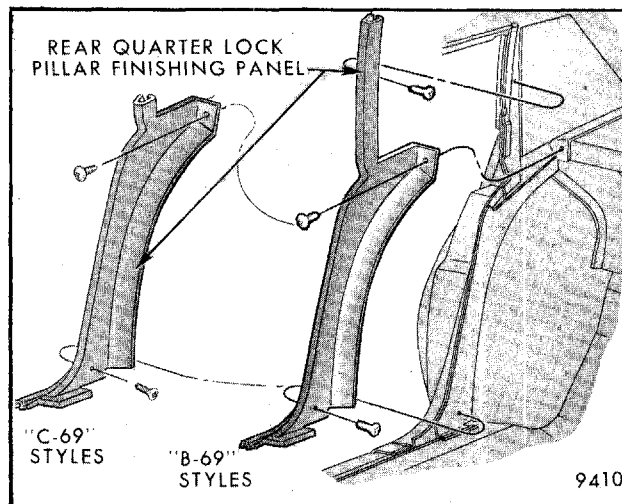

Fig. 6-7-Quarter Trim Assembly Attachment - "B and C-69" Styles
2. Remove attaching screws from trim panel (Fig. 6-7) and remove trim panel. On "B,C" styles, slide top of trim finishing panel from engagement with side roof rail garnish molding